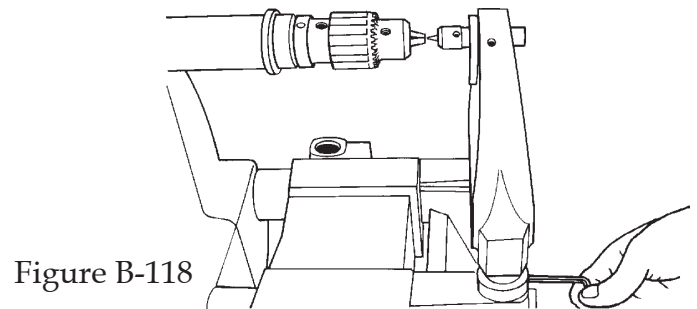

Figure B-118
- To adjust the cup center point **vertically**, loosen the mount lock, then loosen the tailstock stop collars. Raise or lower the tailstock in the base mount until the cup center point vertically lines up with the drill chuck, then tighten the mount lock. Press the stop collars down firmly against the base mount and tighten the collar set screws, as shown in Figure B-118.